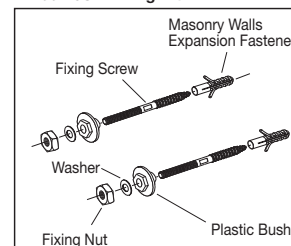

Fig. 2
- 3- Insert Expansion Fasteners into the drilled holes in masonry wall. The Fixing Screws should be screwed into the wall using the flat section of the Fixing Screw with a spanner as shown in **Fig. 2**. Allow 60 mm of thread to protrude from the finished wall.